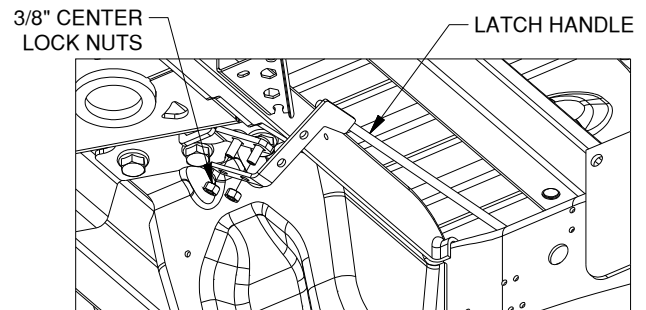

Figure D2: Looking back at driver side of center section.
- 2. Install the latch pin handle.** Beginning under the vehicle, "thread" the end of the handle, with the vinyl grip, in front of the brake lines and over the frame on the driver's side. Attach the handle to the latching mechanism over the 3/8 carriage bolts with two 3/8 locking flange nuts, see figure D2. Be sure that the handle is in the proper position and that it does not interfere with any other components of the vehicle. Torque the nuts to 30 ft. lbs. to secure the handle.